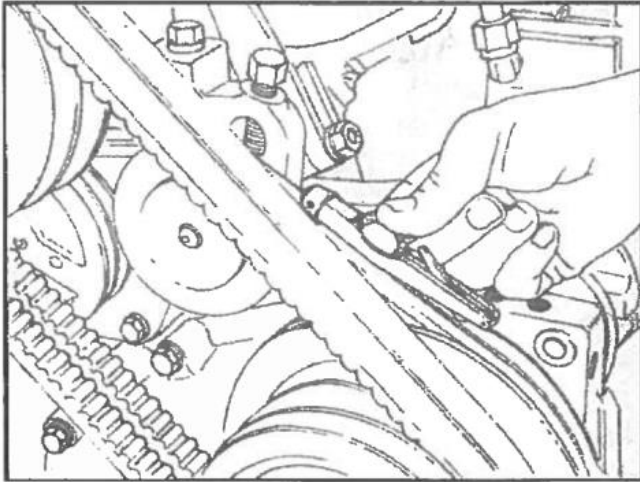

FIGURE 28 - CHECKING DRIVE BELT TENSION
- Loosen the bolts that hold the alternator in position. The alternator has a slotted bracket and tension nuts that will release the tension on the drive belt. See FIGURE 28.